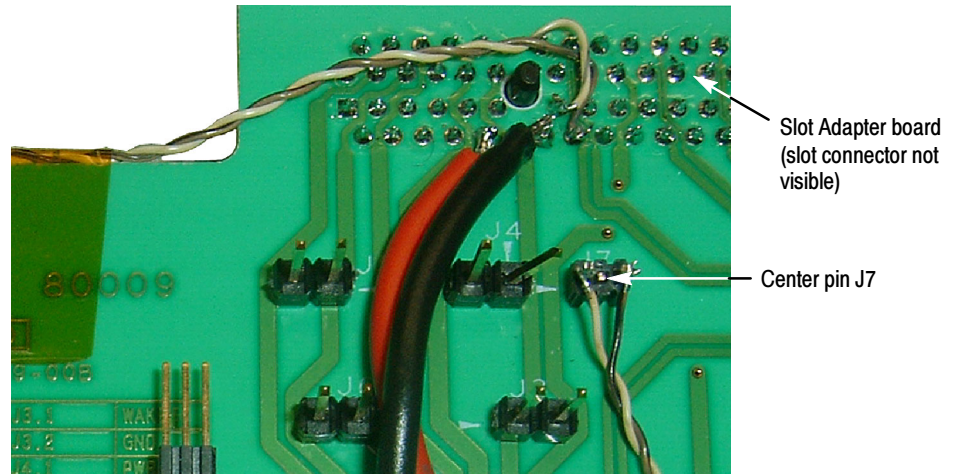

Figure 3: Removing the center pin from J7
5. Remove the center pin (pin 2) from the J7 square pin connector. See Figure 3.